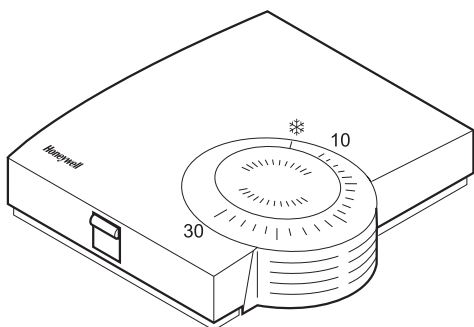

Fig. 13: Room unit HCW 80 (settings on the scale in °C)
- ▶ Select the desired change of the preset temperature at the adjustment dial (see Fig. 13).
- ▶ Check whether the adjustment dial is in the position shown in Fig. 13.